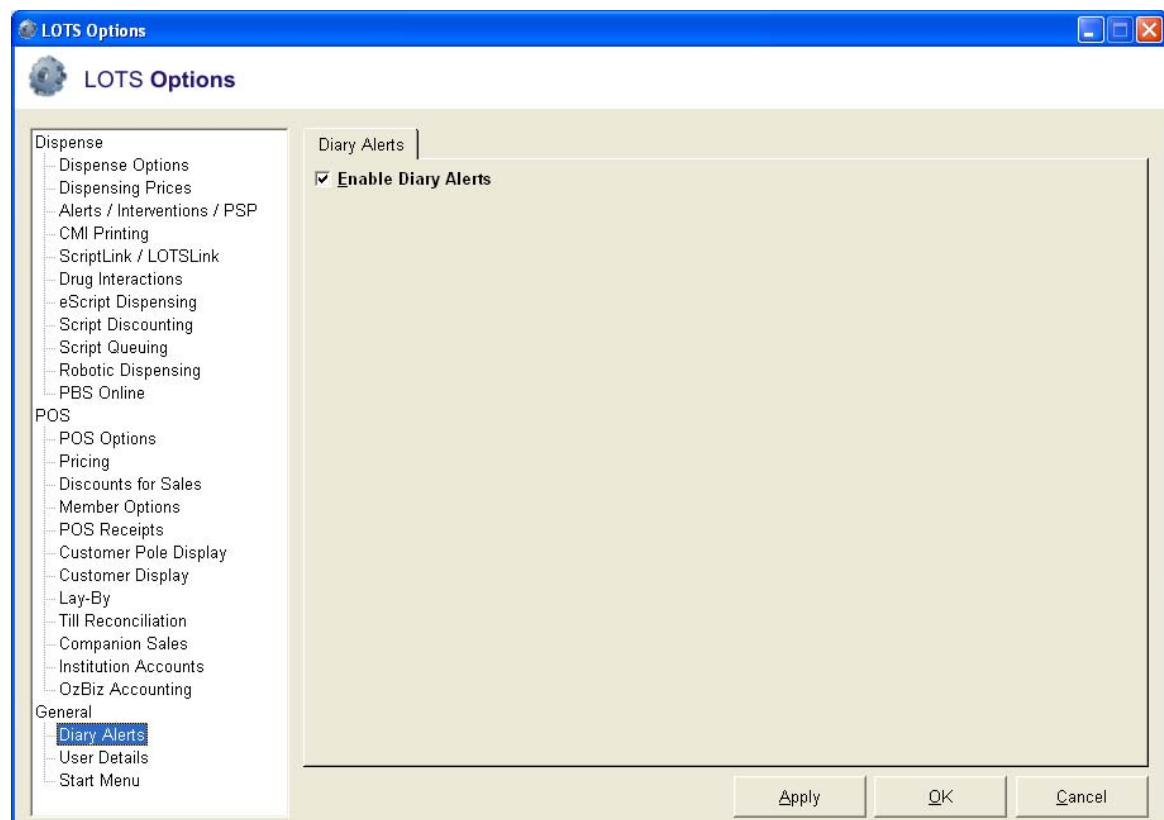

Figure 239
2. In the 'Diary Alerts' tab select 'Enable Diary Alerts' (see Figure 239).